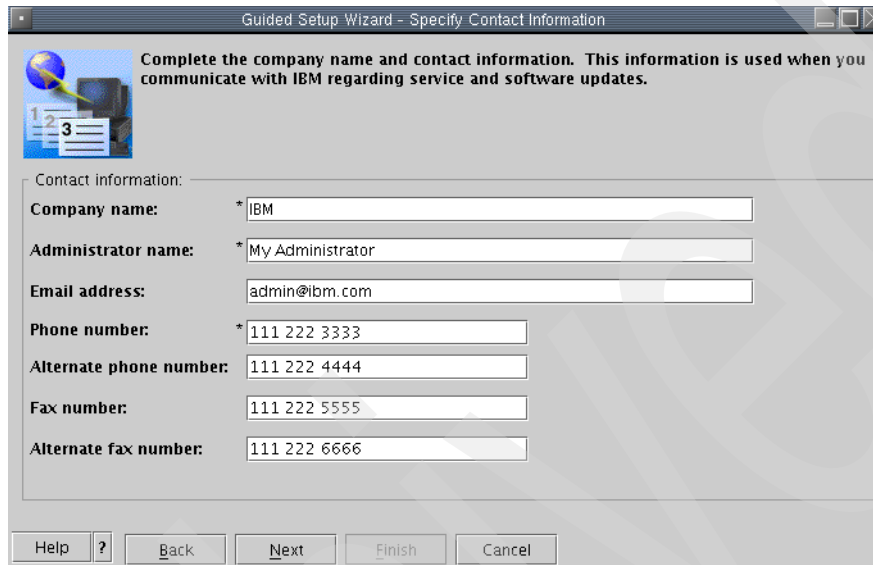

Figure 4-29 Guided Setup - Specify contact information
28. The Guide Setup Wizard - Specify Contact Information panel is presented (see Figure 4-29). This is the first of three panels which contain the contact details for your company (this information will probably be similar to the WRKCNTINF information stored in OS/400 if you have previous iSeries systems. The information entered here is used by IBM when dealing with problems electronically reported (calling home), as well as software updates. You should enter valid contact information for your own location. The fields marked with '*' are mandatory and must be completed.